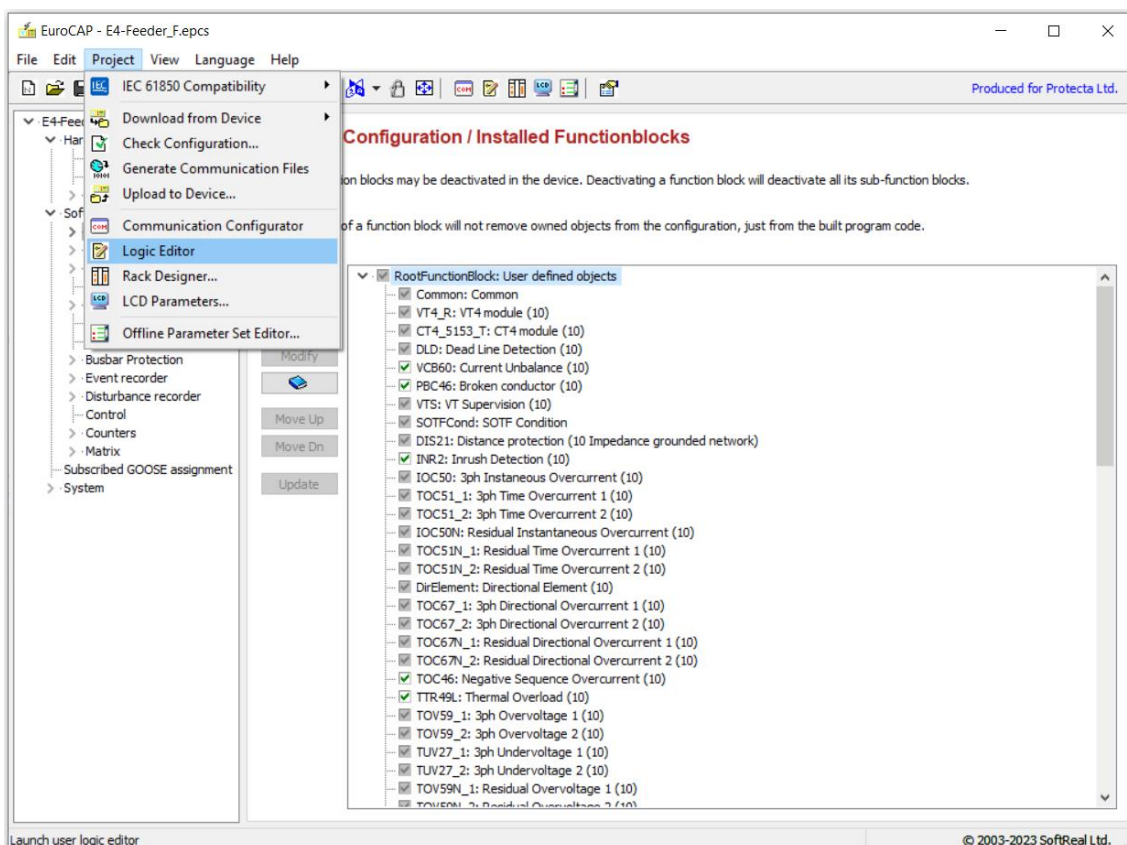

Figure 6-1 Opening the graphical logic editor
- selecting the “Project” menu item on the header, then clicking “Logic Editor”. (See Figure 6-1)